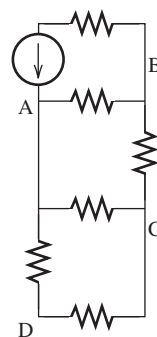

FIGURE P3.30 Circuit for Problem 3.30.
- 3.30** (A)* Which node is the best choice for a reference node in the circuit in Figure P3.30?
3.43 (B) Identify the meshes and mark the mesh currents in Figure P3.30.